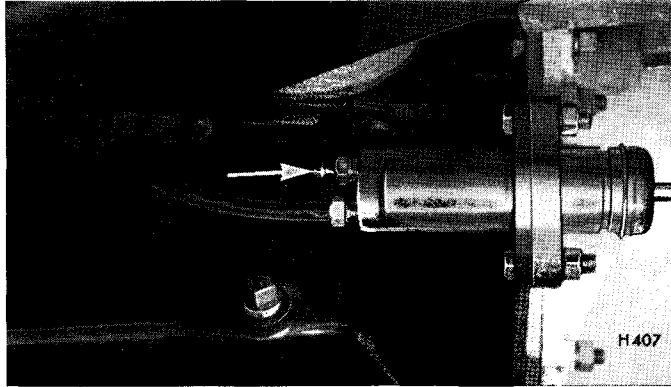

Fig. 27
### Bleeding the Clutch System (Fig. 3 page 51 and Fig. 27 page 66)
3. Clean the clutch cylinder nipple (Fig. 27) and attach to it a rubber tube of approx.  $\frac{1}{4}$ " (6 mm.) bore allowing the other end of the tube to hang submerged in a jar containing a quantity of clean hydraulic fluid.